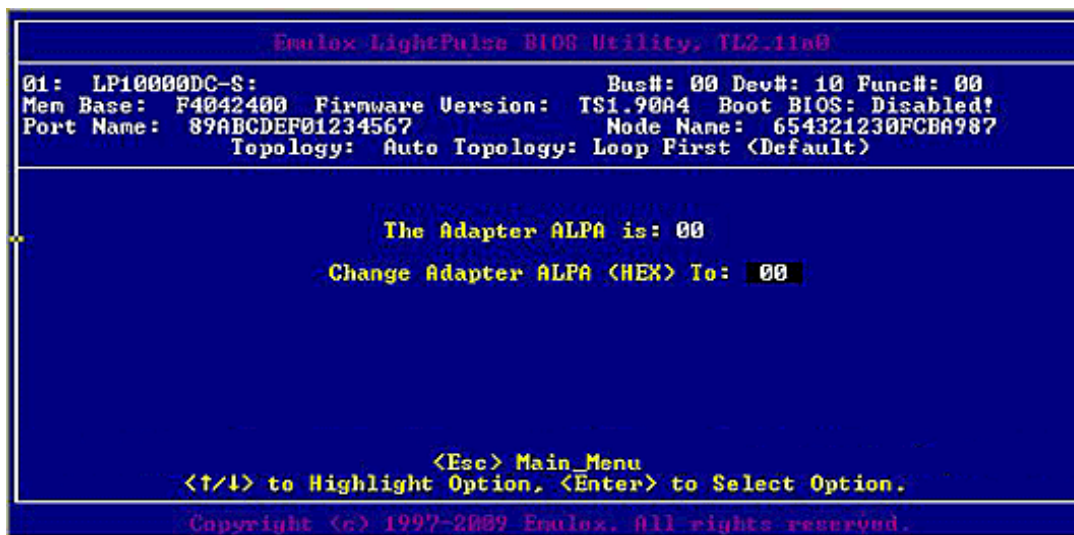

Figure 4-10 Change Default ALPA Screen
2. Select **Change Default ALPA of this adapter**. Information similar to Figure 4-10 is displayed.